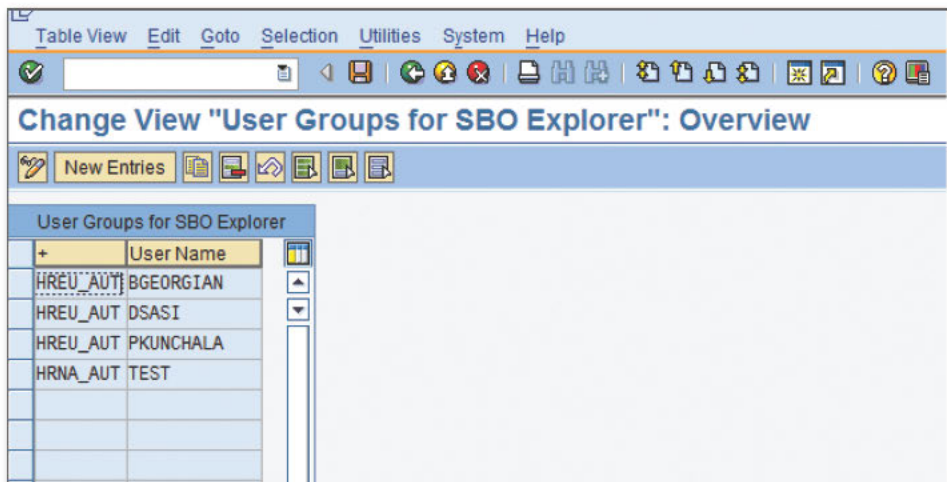

Figure 1 Editing User Groups for SAP BusinessObjects Explorer
4. You'll now see a screen (Figure 1) that allows you to edit user groups for SAP BusinessObjects Explorer (table view maintenance Transaction SM30 for Table RSDDTPS_AUTHGRP). Assign the users to the respective groups.